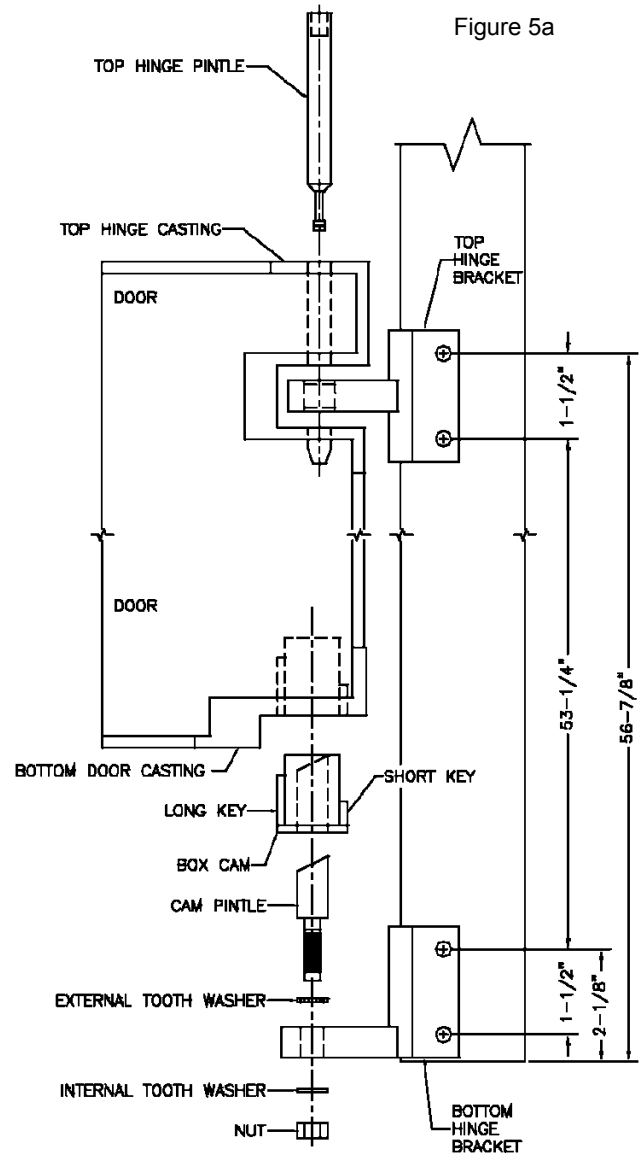

Figure 5a
- a. Attach top and bottom hinge brackets to pilaster with thru bolts (4-total). If pilasters were not pre-drilled at the factory, use dimensions shown in Figure 5a as a drilling ($\frac{1}{4}$ " bit) guide.
- b. Assemble cam pintle, external tooth washer, internal tooth washer, and $\frac{1}{2}$ " hex nut to the bottom hinge bracket as shown in Figure 5a and hand-tighten (to be wrench-tightened later).
- c. Insert box cam into bottom door casting as shown in Figure 5a, with short key pointing toward hinge side (edge) of door.
- d. Set door onto bottom hinge cam pintle. Bring door up so the top hinge casting is in line with the top hinge bracket as shown in Figure 5a. Insert the top hinge pintle and tap it down so it's flush with the top of the door.